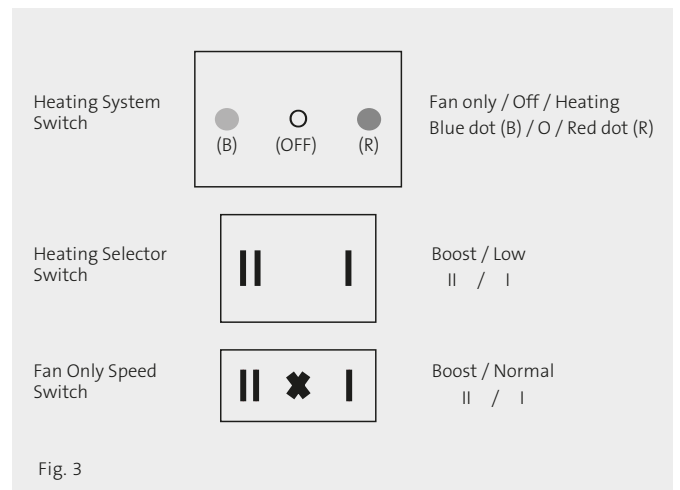

Fig. 3
<p>COMFORT MODE Provides room temperature control for when the room is occupied (see Fig. 3). Heating mode – Electric To enter this mode:</p> <ul style="list-style-type: none"> • Set the fan only/off/heating switch to heating (red dot) • Set the output switch to position I • Select the fan speed switch to position I <p>The unit will now run on low speed. To operate the 500E ECO at 2kW:</p> <ul style="list-style-type: none"> • Set the output switch to position II <p>The unit will now run on high speed.</p>	<p>The display will show the ambient temperature. Press OK, set temperature will begin to blink. Use ◀ or ▶ to adjust the required room temperature. Press OK to confirm. The ambient room temperature will then display.</p> <p>Default setting +21°C Max temp setting +30°C Min temp setting +5.5°C</p> <p>Note: The thermostat has a LED indicator that will change colour depending on the following: ≤21.0°C = Green 21.5°C - 24.0°C = Orange ≥24.5°C = Red</p> <p>NOTE: To see the set temperature simply press ↻.</p>
- Færdiggør den elektriske installation, tænd og prøv OPTIMO 500E ECO (se fig. 3).